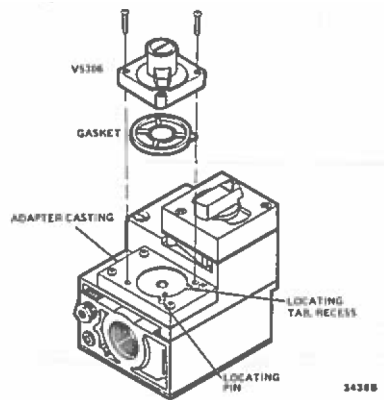
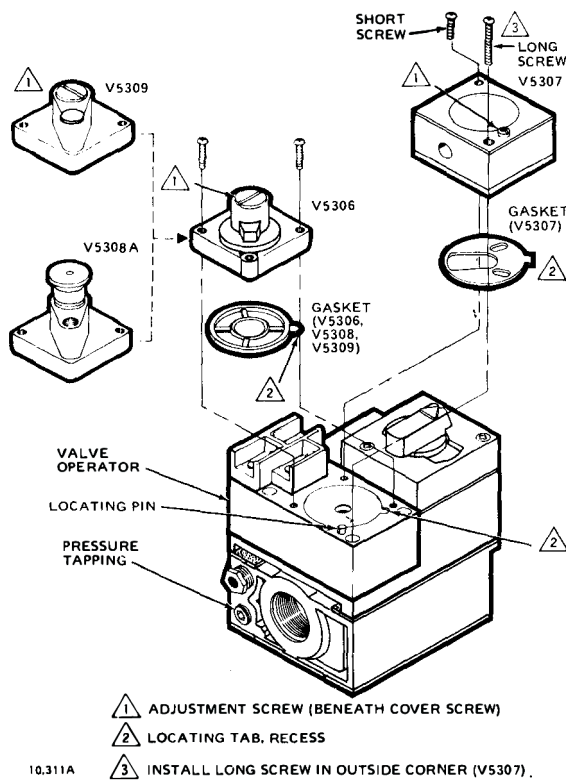
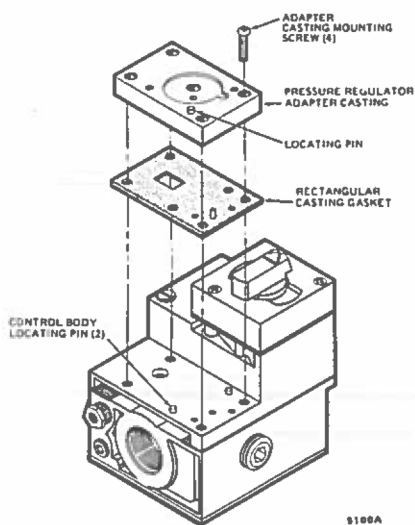

Fig. 1. Installing pressure regulator on adapter casting.
Fig. 2. Servo pressure regulator installation on combination gas control equipped with valve operator.
Fig. 4. Installing adapter casting.
1. Note location of regulator as shown in Fig. 1 and 2.
4. Press new gasket into circular recess in adapter casting (Fig. 2) or operator cavity (Fig. 1).
3. Carefully place rectangular gasket and casting (Fig. 4) on manifold so that locating pins mate with gasket and casting.
5. Press regulator gasket into circular recess of adapter casting (Fig. 1).
6. Position new regulator over locating pin (Fig. 1), and fasten with screws provided. Tighten evenly and securely.
3. Press regulator gasket into circular recess of adapter casting (Fig. 1) or operator cavity (Fig. 4).
- a. Remove the cover screw (Fig. 2).